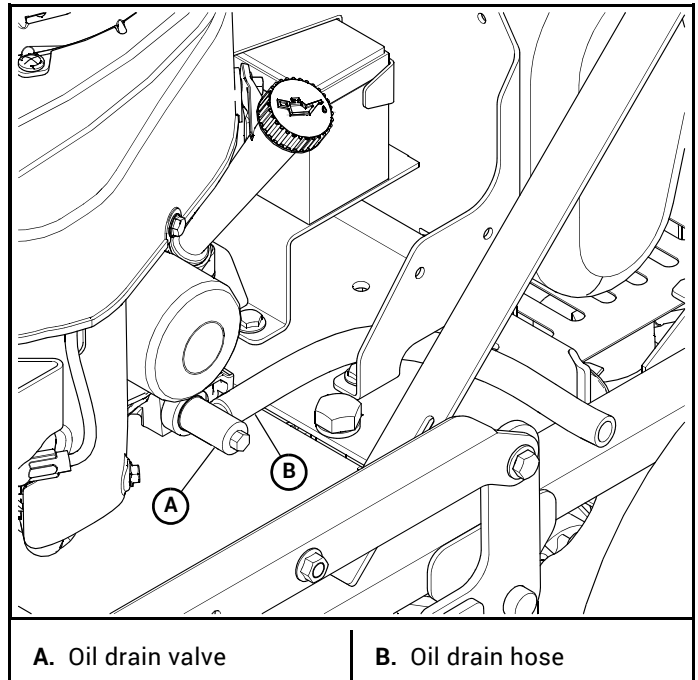

Figure 5-1
1. Locate the oil drain valve on the lower right side of the engine. Figure 5-1
2. Locate the oil drain hose that was supplied with the machine. Be sure to clean and clear it of debris that might block the flow of the engine oil. Figure 5-1
3. Attach one end of the hose onto the oil drain valve nipple. Make sure the hose is pushed all the way onto the valve. Figure 5-1